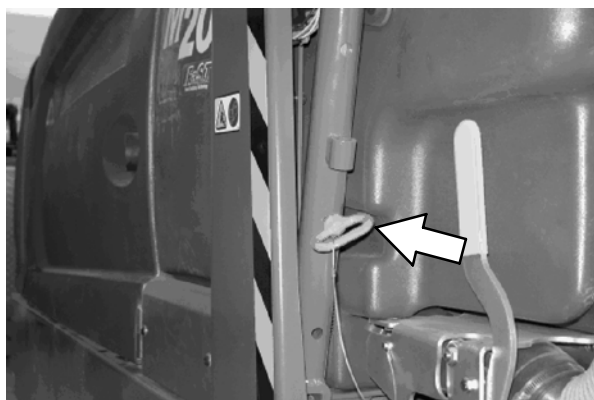

FIG. 1
2. Raise the hopper to the middle support position and engage the hopper support pin. Stay clear of the moving hopper. Refer to the Operators Manual for additional instructions and safety information. Refer to Fig. 1.